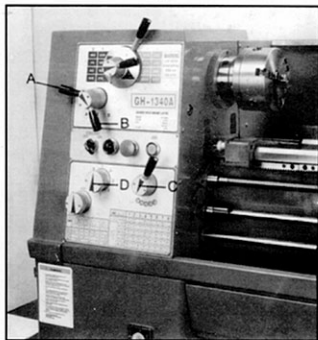

Fig. 19
2. Set selector levers (A,B,C,&D, Fig. 19) to desired rate. **Note:** for feeding, lever (C) will be set at "F" or "D", depending on desired feed rate.
1. Set forward/reverse lever (A, Fig. 19) up or down depending on the desired direction.
2. Set selector levers (A,B,C, and D, Fig. 19) to desired rate. **Note:** for threading, lever (C) will be set at "C" or "E", depending on desired thread.